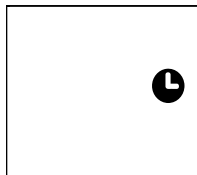

Fig. 4
- Press several times until the corresponding time is displayed.Wait about 5 seconds, the timer will be active, then only the ⏰ symbol is displayed on screen. (fig 4)